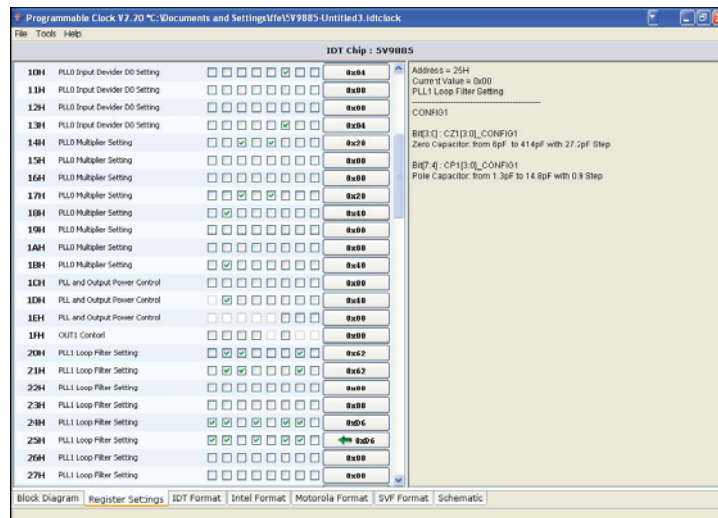

Figure 8 Assigning the register settings
2. Copy the contents of the register in the left column to the register in the right column by matching the checkboxes. For example, the configuration in Table 23 requires that you copy the settings from register 0x8 to register 0xB, then to copy the settings from register 0xC to register 0xF, and so on. Figure 8 presents how the contents are copied for registers 0x13, 0x17, 0x1B, and 0x21.